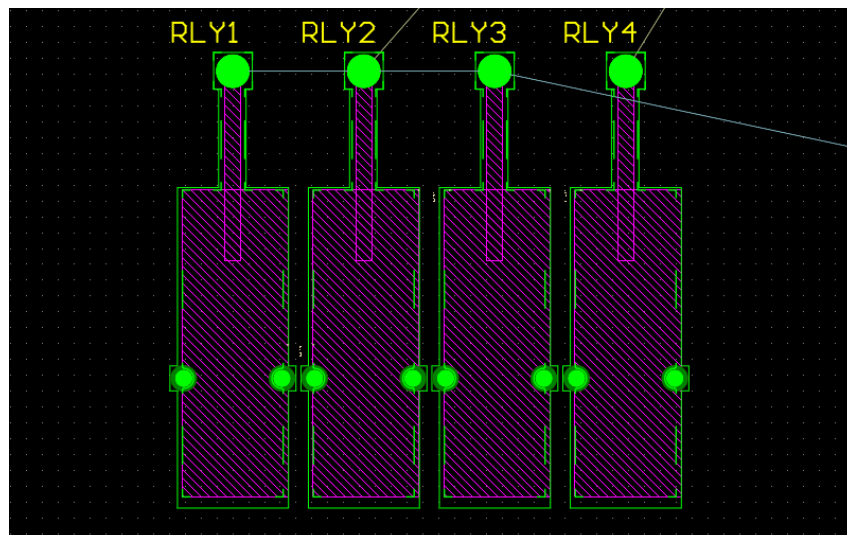
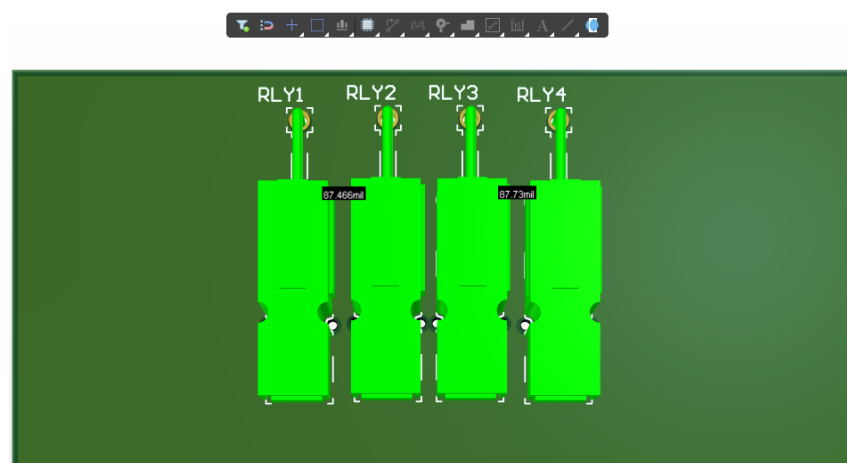

Figure 10. Component Clearance Rule 2D
Figure 11. Component Clearance Rule 3D
37. Drag RLY1, RLY2, RLY4 and RLY3 on to the PCB, and place them close as possible. It will be clear to when the placement violations appear, the components should be highlighted in green, as seen in Figure 10 and Figure 11.